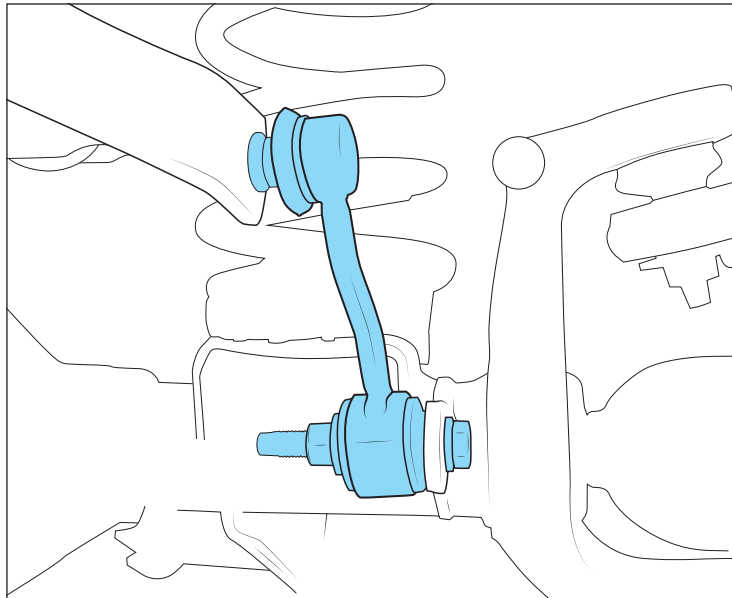

Figure 10
5. Remove sway bar end links. SAVE lower mounting hardware (fig. 10).